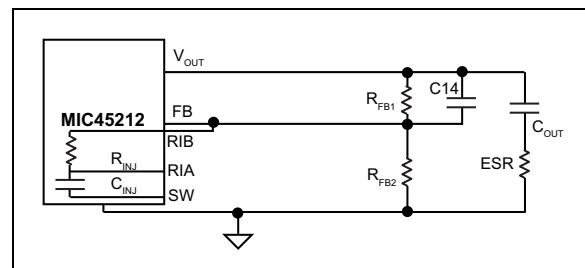

FIGURE 5-5: Internal Ripple Injection at FB via RIB Pin.
2. There is virtually inadequate or no ripple at the FB pin voltage due to the very low-ESR of the output capacitors; such is the case with the ceramic output capacitor. In this case, the V_{FB} ripple waveform needs to be generated by injecting a suitable signal. MIC45212 has provisions to enable an internal series RC injection network, R_{INJ} and C_{INJ} , as shown in Figure 5-5, by connecting RIB to the FB pin. This network injects a square wave current waveform into the FB pin, which by means of integration across the capacitor (C_{14}), generates an appropriate sawtooth FB ripple waveform.